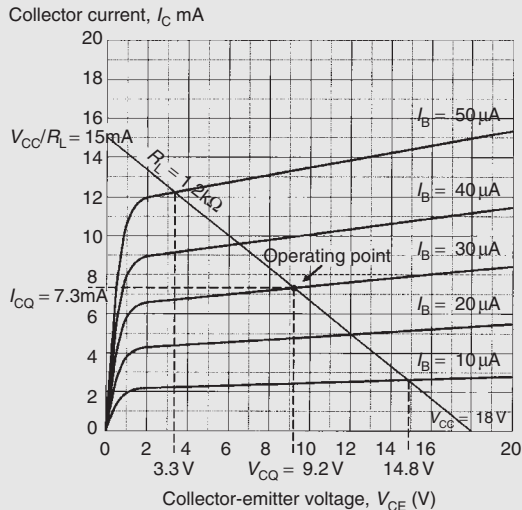

Figure 12.25
Problem 11. The characteristic curves shown in Fig. 12.25 relate to a transistor operating in common-emitter mode. If the transistor is operated with $I_B = 30\text{ }\mu\text{A}$, a load resistor of $1.2\text{ k}\Omega$ and an
- (a) First we need to construct the load line on Fig. 12.25. The two ends of the load line will correspond to V_{CC} , the 18 V supply, on the collector-emitter voltage axis and $18 \text{ V} / 1.2 \text{ k}\Omega$ or 15 mA on the collector current axis.
- (b) Next we can determine the maximum and minimum values of collector-emitter voltage by locating the appropriate intercept points on Fig. 12.25. Note that the maximum and minimum values of base current will be $(30 \mu\text{A} + 20 \mu\text{A}) = 50 \mu\text{A}$ on positive peaks of the signal and $(30 \mu\text{A} - 20 \mu\text{A}) = 10 \mu\text{A}$ on negative peaks of the signal. The maximum and minimum values of V_{CE} are, respectively, 14.8 V and 3.3 V. Hence,